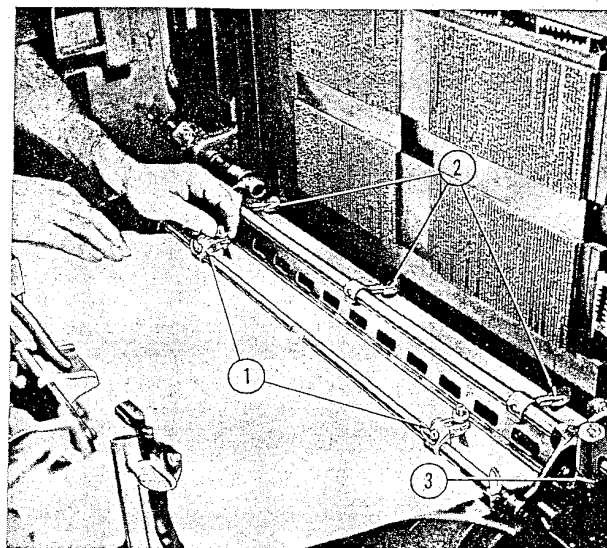

Figure 24—Adjusting Transfer Table Brushes
**BRUSHES AND SHEET GUARD WHEELS.**—When a sheet is being automatically positioned on the transfer table for correct side and front register, the suction holding the sheet to the table is released, allowing the sheet to move. After the sheet has been correctly registered, the transfer table moves forward slightly until the cylinder grippers close on the sheet. The transfer table brushes, which attach to the side guide tube, (1) figure 24, hold sheets to front register during front and side guide registering.
Also attached to the side guide rod are three sheet guard wheels, (2) figure 24, which are required only when running large sheets which have a tendency to "whip" as the sheet is taken from the cylinder by the delivery grippers. When these wheels are used, they are positioned so as to point downward and should be positioned laterally so as to fit into the blank margins of the forms and not be in line with the delivery grippers.